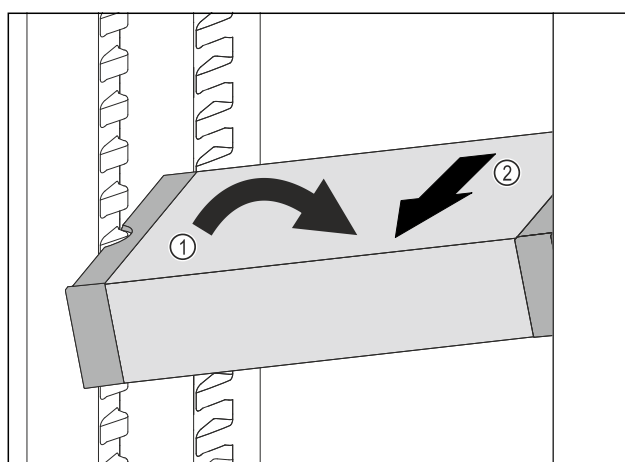

Fig. 147
- Set VarioSafe in refrigerator compartment at an angle. Fig. 147 (1)
- Take VarioSafe out to the front. Fig. 147 (2)